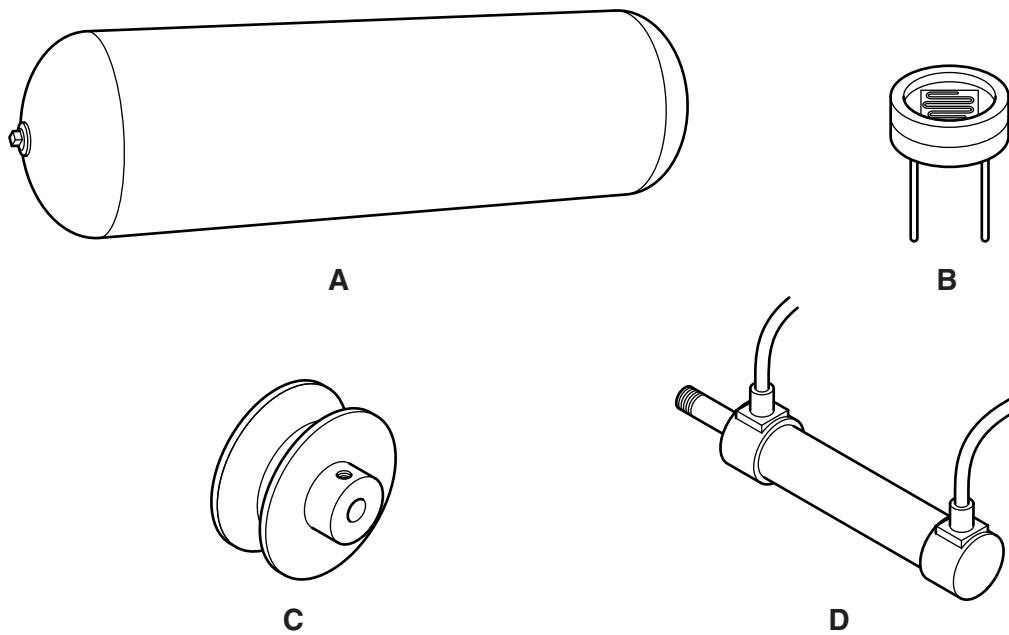

Fig. 1
5 Fig. 1 shows a number of engineering components used in control systems.
- (b) State which of the components shown in Fig. 1 could be described as a 'sensor'.
- (c) Select **one** of the components shown in Fig. 1 and, using **one** example, describe its function in detail.